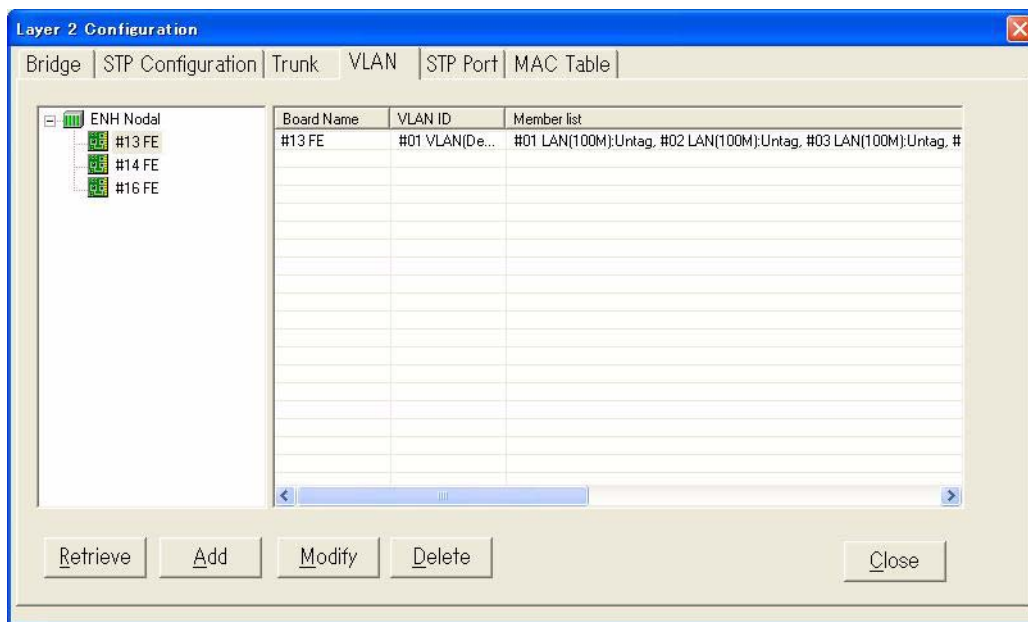
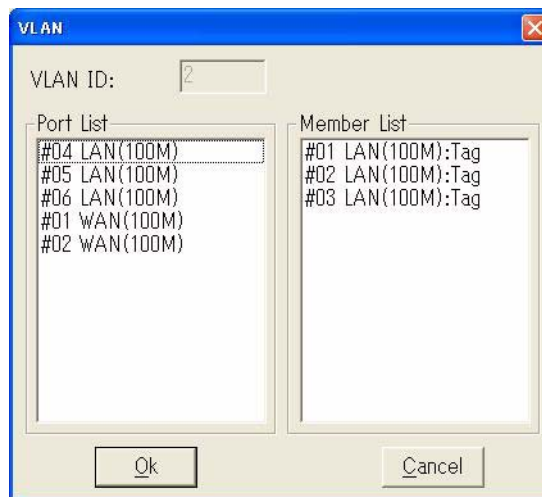

Fig. 4-4-67 VLAN
Fig. 4-4-71 Modifying VLAN
- 1 See **Fig. 4-4-42**, select **VLAN** attribute page on the top of window. **Fig. 4-4-67** appears:
- 1 See **Fig. 4-4-42**, select **VLAN** attribute page on the top of window. **Fig. 4-4-67** appears.
- 7 If need to modify a VLAN, select the VLAN port and click **Modify** button in *Fig. 4-4-67* and *Fig. 4-4-71* appears:
- 9 If need to delete a VLAN, select the VLAN and click **Delete** button in *Fig. 4-4-67*.